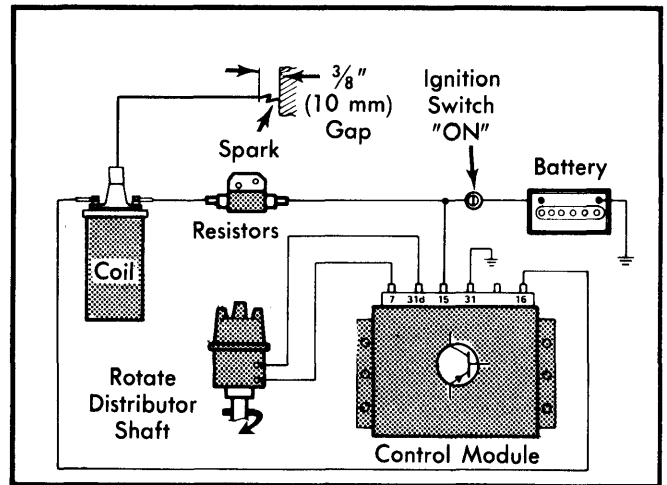

Fig. 2 Coil Wire Hookup for Making System Spark Test
1) If starter turns, but engine will not start or it fails to develop sufficient power, hold distributor end of coil wire about $\frac{3}{8}$ " (10 mm) from engine block and crank engine. See Fig. 2.